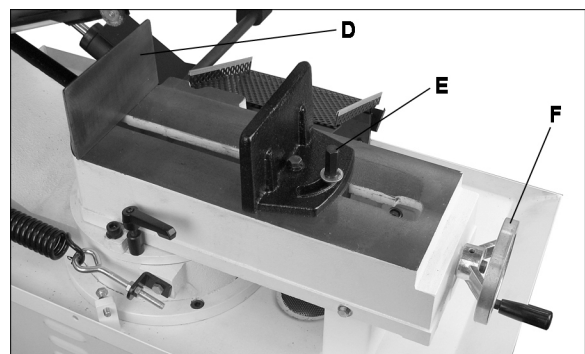

Figure 16
1. Make sure fixed jaw (D, Figure 16) has been squared (section 9.2, Squaring blade to vise).
3. Loosen hexagonal stud (E) on floating jaw.
4. Rotate handwheel (F) slightly counterclockwise, then push floating jaw by hand until it contacts workpiece and adjusts to its shape.
5. Tighten stud (E).